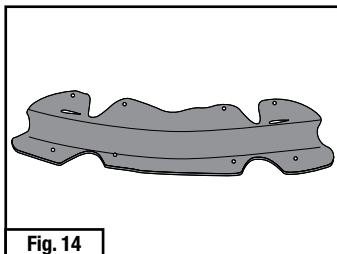
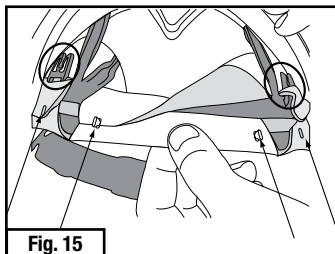

Fig. 14
Fig. 15
2. Secure the new S-953 comfort pad (Fig. 14) to the suspension according to Fig. 15. The two long slots in the comfort pad hook over the large top hooks circled in Fig. 15. Use the smaller hooks on the suspension to fully secure the comfort pad.